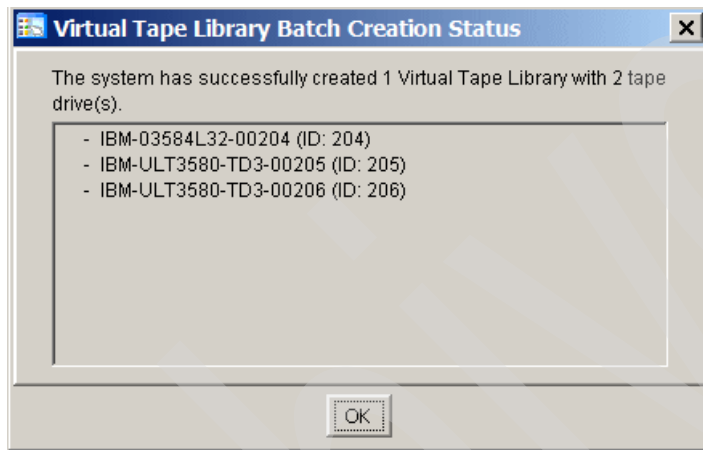

Figure 8-14 TS7500 - virtual tape library creation status
8. The Virtual Tape Library Creation Status window opens as shown in Figure 8-14. Click **OK**.